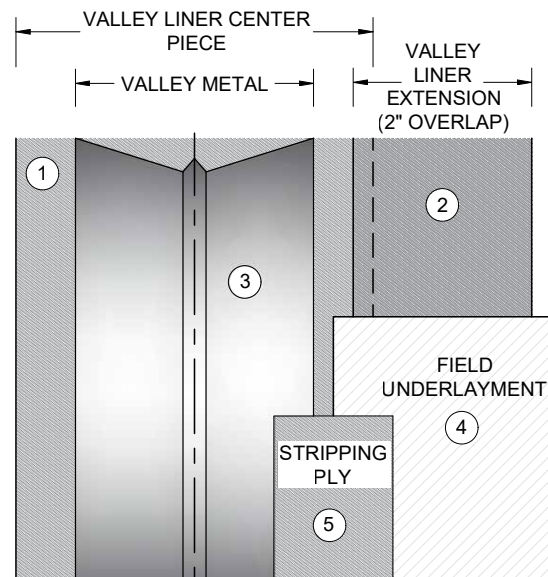

Figure 11 - Construction of Open Metal Valley Option 1
5. Install a 12"-wide (305 mm) stripping ply of Arctic Seal: 4" (102 mm) over the edge of valley metal (covering fasteners used to secure the metal), 4" (102 mm) over the exposed valley liner, and 4" (102 mm) onto the field underlayment. Employ a silicone hand roller to ensure full adhesion. (See Figure 11)